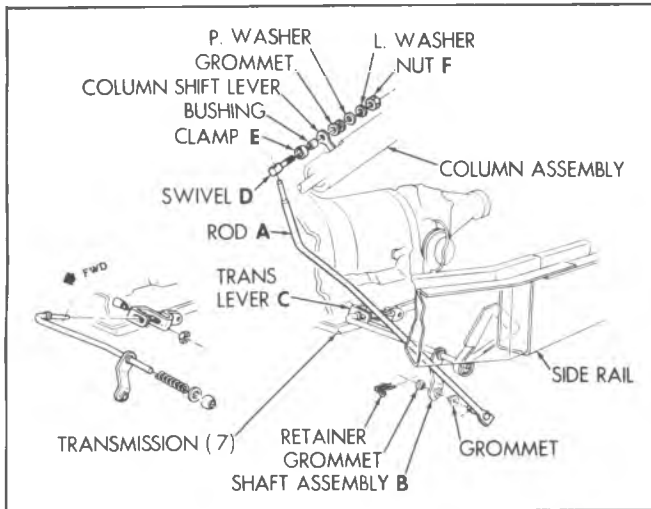

Fig. 7A-5--Column Shift Linkage-G Series
Column Shift Linkage - G Series (Fig. 7A-5)
4. Attach rod (A) to shaft assembly (B) as shown (Fig. 7A-5).
5. Slide swivel (D) and clamp (E) onto rod (A) align the column shift lever and loosely attach as shown.
7. Tighten nut (F) to 18 ft. lb. (24 N·m)